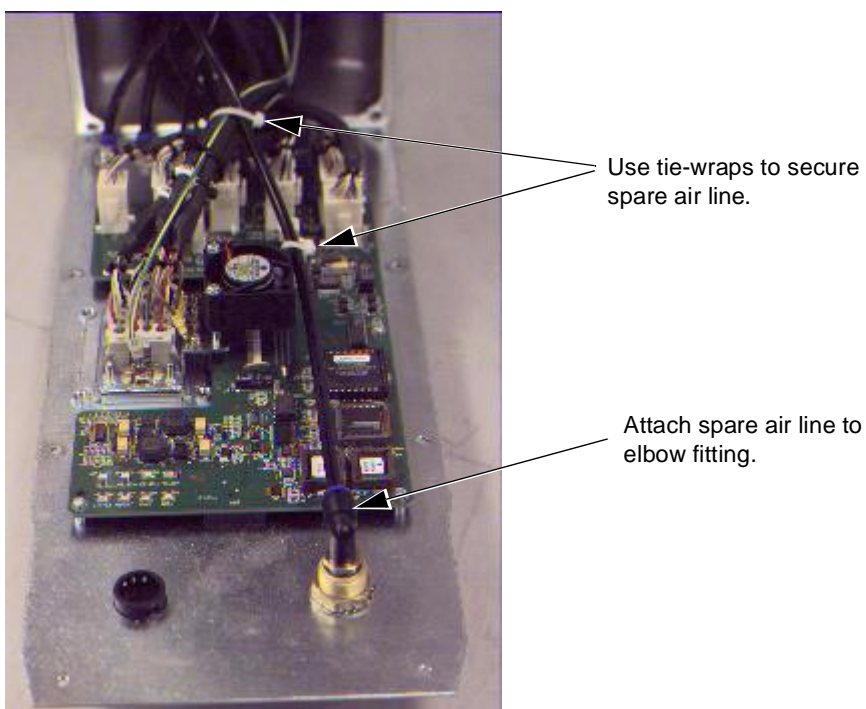

Figure 6-7. Adept Cobra Rear Panel Cover (Inside View)
4. Locate the spare air line inside the base of the robot. Attach the spare air line to the elbow fitting. See Figure 6-7 on page 104. Use tie-wraps to secure the spare line.